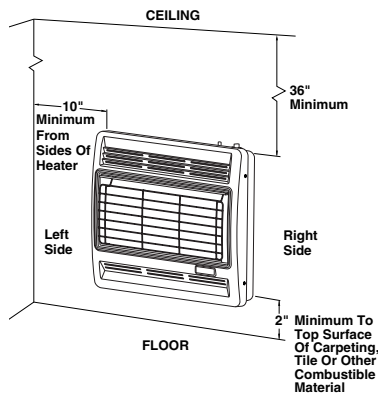

Figure 4 - Mounting Clearances As Viewed From Front of Heater
**WARNING:** Maintain the minimum clearances shown in Figure 4. If you can, provide greater clearances from floor, ceiling, and joining wall.